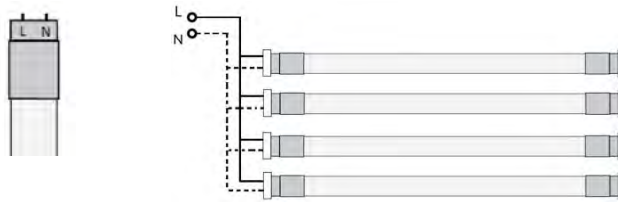

Figure 4
**STEP 5:** Install the Tubul®ARCH T5 on the powered end, marked by “L” and “N” as shown in Figure 4. Attach the field applied label to the luminaire. Install ballast cover and diffuser (if applicable) back on the luminaire, and LED tube.